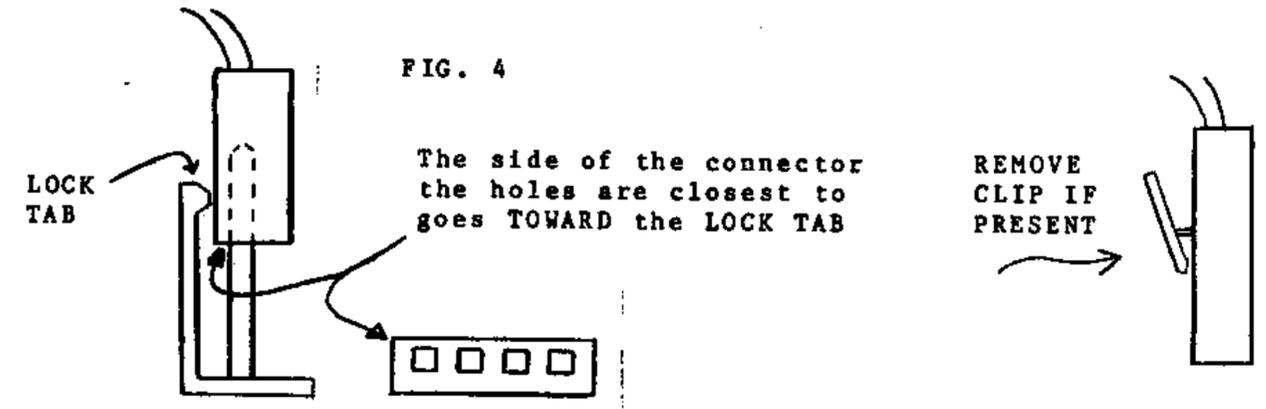

FIG. 4
CAUTION: PAY CLOSE ATTENTION TO THE ORIENTATION OF THE POWER SUPPLY CONNECTORS. SEE FIG. 4. REMOVE THE SMALL CLIP AS INDICATED.
- 9) Plug the free end of the RAVE 99 power adapter cable to the POWER SUPPLY board and ENSURE POLARITY IS CORRECT. See FIG. 4